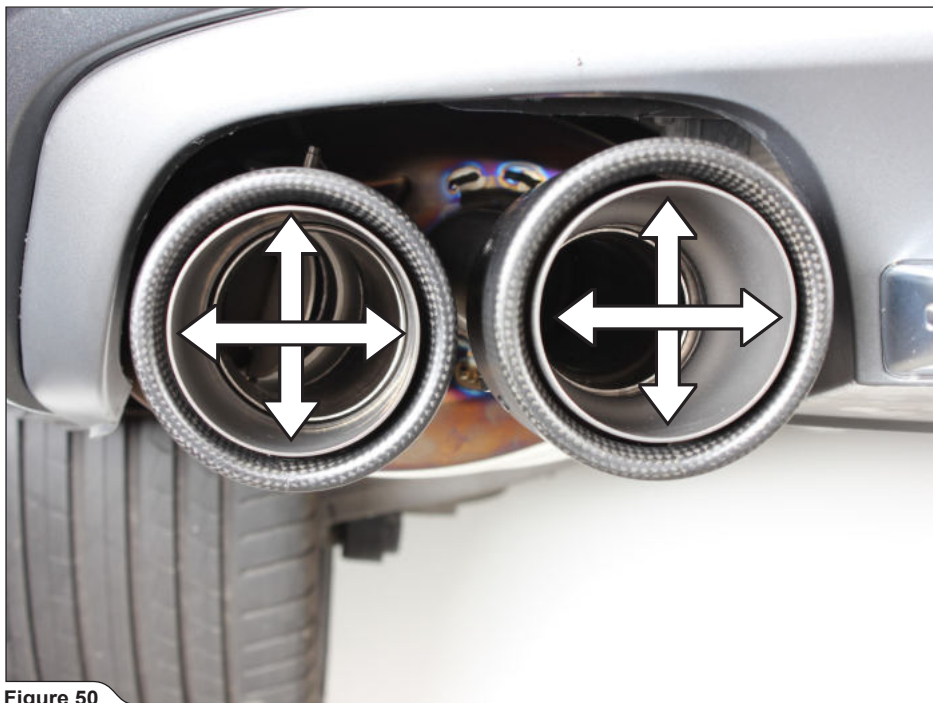

Figure 50
16. Slide the tail-pipes onto the muffler outlets. Rotate and center them in respect to rear bumper and according to your personal preference (**Figure 50**).